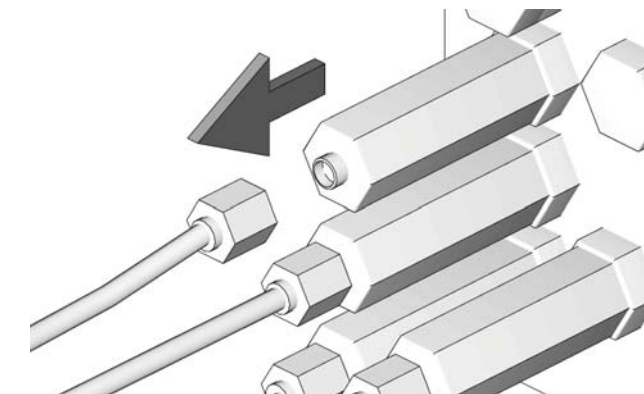

FIG. 12
2. If the meter is located on a manifold, use a 7/16" wrench to remove tubing (FIG. 12).